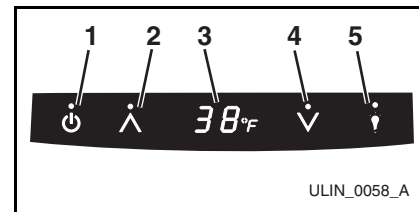

Figure 6
1. Press and release either the WARMER (**Figure 6, 2**) or COOLER (**Figure 6, 4**) icon to put the controller in the SET TEMPERATURE mode. The °F symbol (**Figure 6, 3**) will begin to flash.